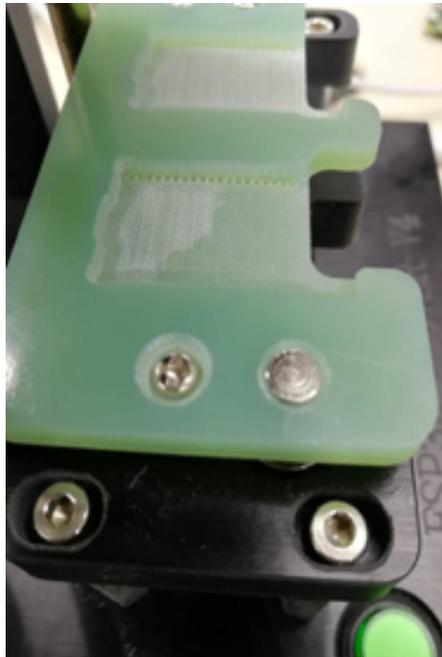

Figure 2-3. The Metal Probes (the handle is lifted)
- When users lift the handle, they must ensure that the metal probes under the mounting panel are completely detached from all the pins of the module, which can be seen in Figure 2-3: